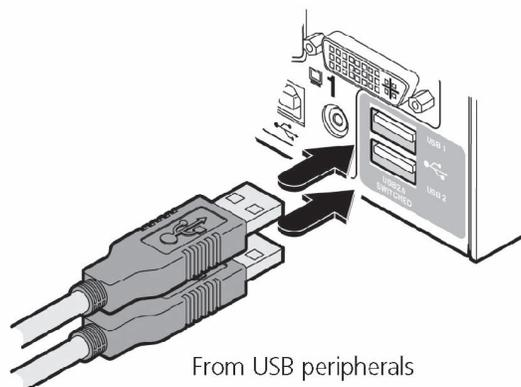

FIGURE 3-2. CONNECTING THE KEYBOARD/MOUSE TO THE USER CONSOLE
2. Keyboard and mouse: Attach the leads from your USB keyboard and mouse to the USB connectors on the switch that are specifically labeled with keyboard and mouse symbols. The keyboard and mouse will operate in any of the USB sockets. True Emulation, however, is not available on sockets labeled USB1 or USB2. See Figure 3-2.